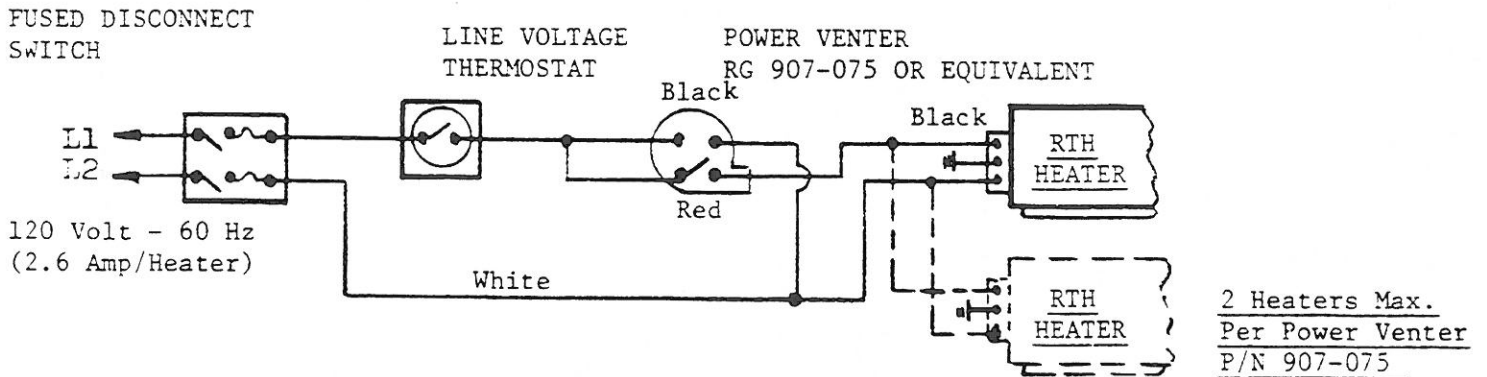

Fig. 3a – "Field" Wiring of Line Voltage Thermostat with Power Venting
- See Field Wiring Dia. Fig. 3a and 4a.